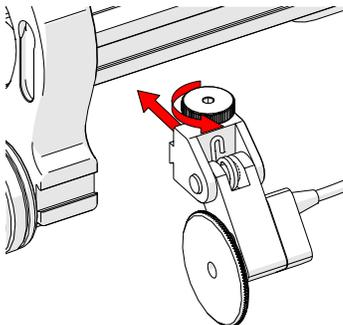

Fig. 39 - Attach to frame bar
1. Loosen the encoder's dovetail jaw and mount it to the dual pivot frame bar (Fig. 39).